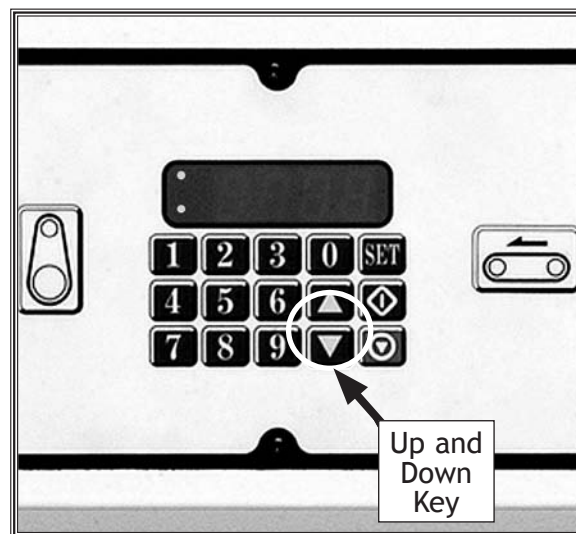

Figure 34. Key pad table-lift controls.
2. Push the down arrow key and lower the table until you achieve six inches between the sanding drum and the conveyor table surface (see **Figure 34**).